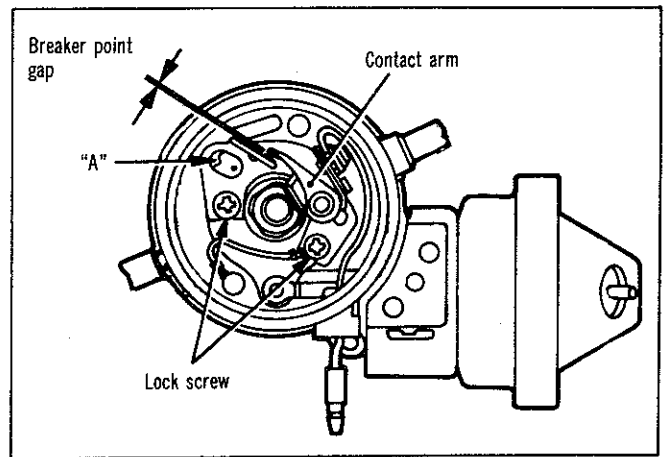

Fig. 2—Adjusting breaker point gap
- (1) With distributor cap and rotor removed, manually rotate engine until the breaker point rubbing block is positioned on the highest point of the cam.
- (2) Loosen the breaker point locking screws and insert a screw driver at point "A" (Fig. 2).
- (3) Turn the screw driver to adjust the breaker point gap to specification.
- (4) With breaker point gap set, securely tighten the locking screws.